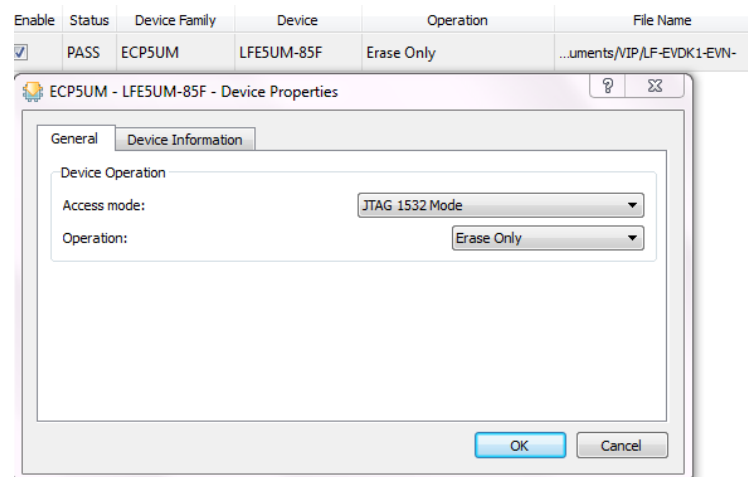

Figure 4.2. Device Operation
5. In the Device Properties dialog box, select **JTAG 1532 Mode** in Access mode and **Erase Only** in Operation (shown in Figure 4.2).